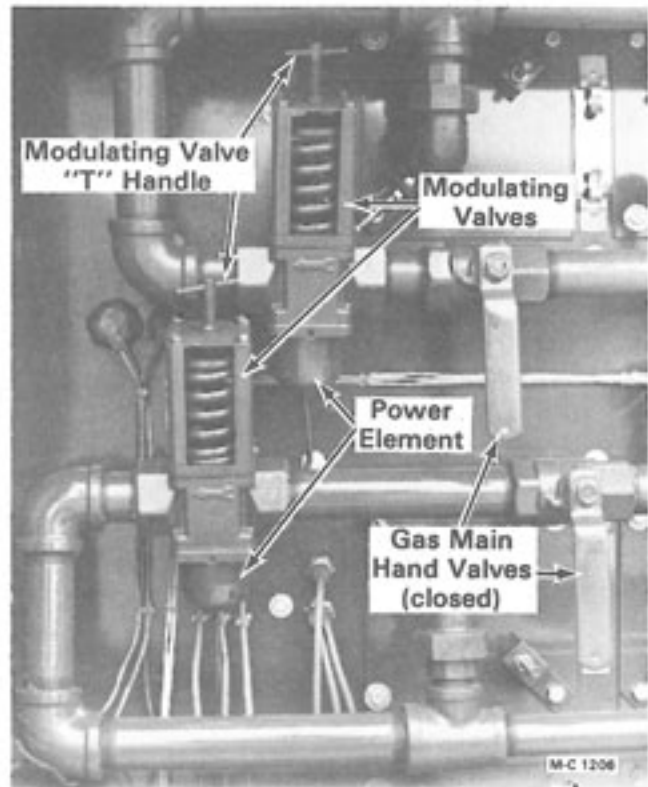

Figure 3 - Two Burner Cabinet
3. Close the gas main hand valve for each burner (handle 90° to the piping), see Figure 3.
4. Check the modulating valve in each burner gas manifold to be sure the "T" handle has not been turned all the way in to the wide open position, see Figure 3. The "T" handle should be halfway between the closed and fully open position.